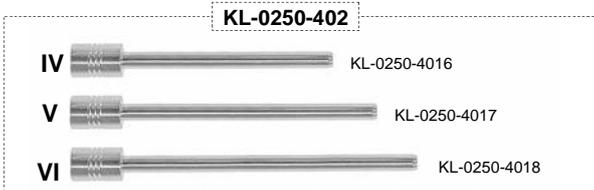

Fig. 2: Tool-body mounted.
2. Remove the hex. nut from the retaining bolt. (Fig.2 arrow)
3. Mount the tool-body **Pos.1** without the threaded adaptor **Pos.2** or the pressure bolt **Pos.3** carefully onto the wishbone as shown in Fig.2. Take care to avoid damage to the rubber gaiters. When the tool-body is correctly mounted the retaining bolt will be centralised in the threaded bore of the tool-body. (Fig.2 arrow)